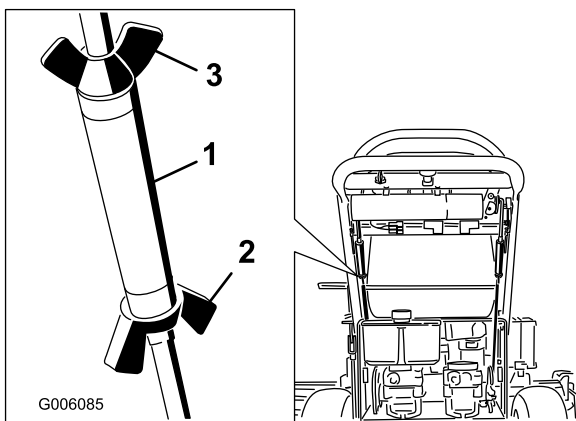

Figure 53
2. Loosen the wing nuts on the right control rod and rotate the turnbuckle in or out to ensure the right side control lever is centered in the neutral lock position. Secure the turnbuckle in position with the wing nuts (Figure 53).
3. Loosen the wing nuts on the left control rod and rotate the turnbuckle in or out to change the tracking. Secure the turnbuckle in position with the wing nuts (Figure 53).